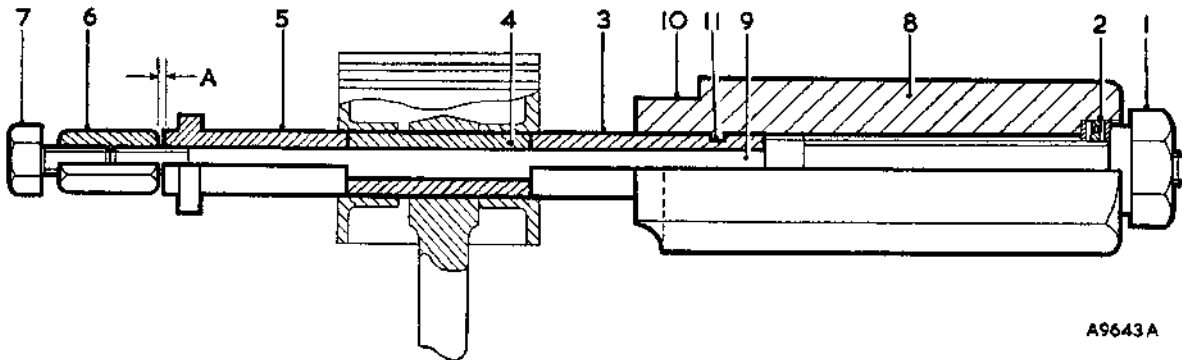

Fig. Aa.4
- (4) Retain the hexagonal body (8) of Service tool 18G 1002 in a vice with the cut-out (10) uppermost (see Fig. Aa.4).
- (5) Screw the large nut (1) back until it is flush with the end of the centre screw (9), push the screw and nut forward until the nut contacts the thrust race (2).
- (6) Slide the parallel sleeve (3), short length diameter first, on to the centre screw up to the shoulder.
- (7) Place the piston assembly on the centre screw, then fit the remove/replacer bush (5), longest diameter portion towards the piston.
- (8) Screw the stop nut (6) onto the centre screw and adjust it until there is approximately 1/8 in. (.8 mm.) end-play in the whole assembly, ensuring that the parallel sleeve and the remover/replacer bush are correctly located in the gudgeon pin bores on both sides of the piston.
- (9) Lock the stop nut securely in position with the lock screw (7).
- (10) Check that the curved face of the body is clean, then slide the piston assembly carefully into position against the curved face. Check that the piston rings are over the cut-out in the tool body.
- (11) Screw the large nut (1) up to the thrust race (2).
- (12) Hold the lock screw (7), not the stop nut, with a spanner, and turn the large nut (1) until the gudgeon pin is withdrawn from the piston.